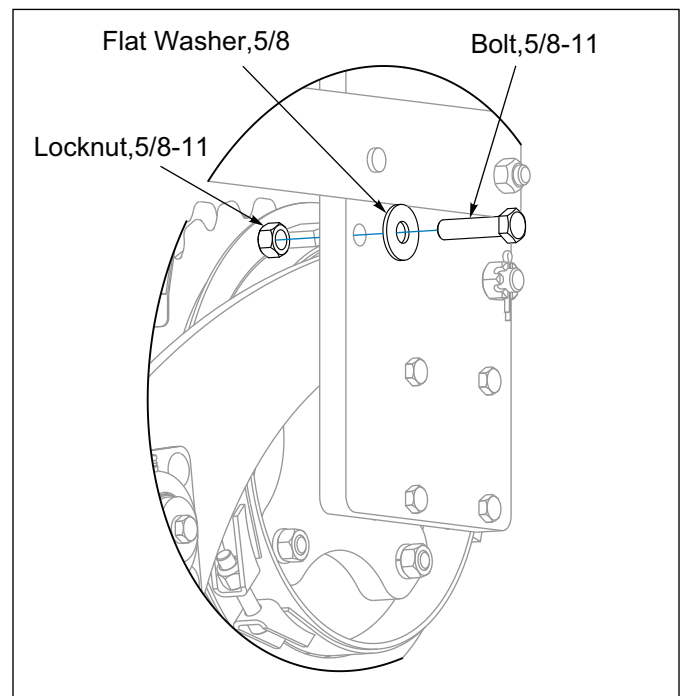

Figure 2-4: Shipping Bolt
6. On the right side of the Seeder Frame, in a similar position as the Parking Pin, remove the 5/8-11 Shipping Bolt that also locks the Rear Roller down. **See Figure 2-4.**